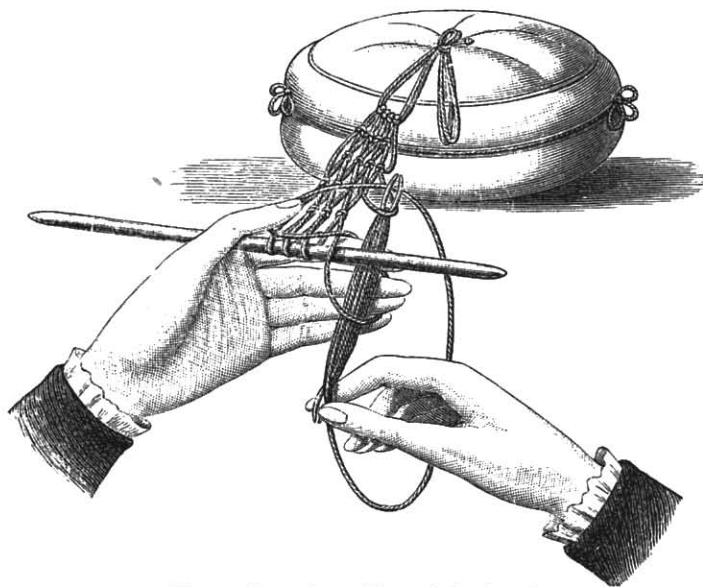

Fig. 4. Second position of the hands.
**Second and third position of the hands** (figs. 4 and 5). Carry the thread downwards again behind the four fingers, and slip the needle upwards from below through the loop that is on the fingers, and through the loop at the back of the spool or through the one to which the thread is fastened;